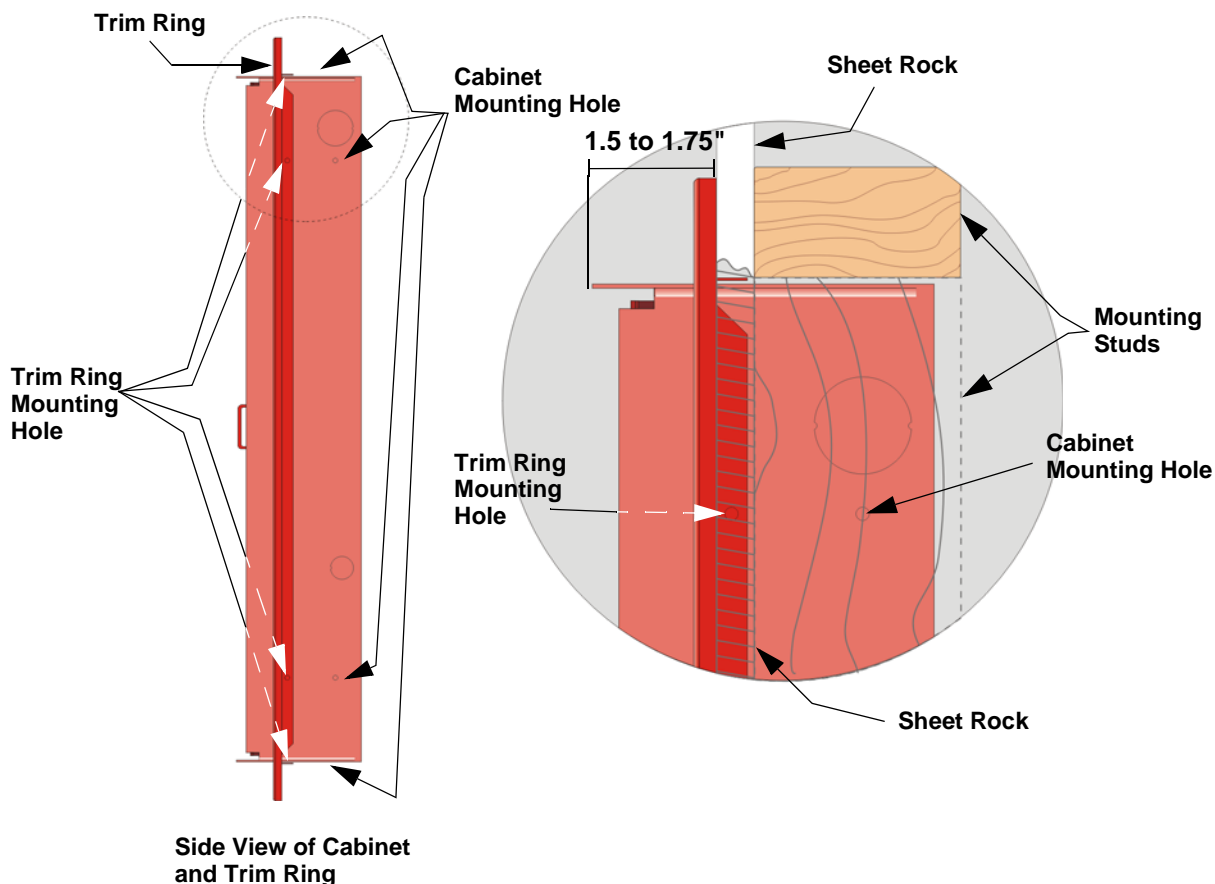

Figure 3-3 Detail of Flush Mounting with Trim Ring
2. Cut a recess hole 20-1/4" W x 26-3/4" H (51.44 cm W x 67.95 cm H). There should be 1.5" to 1.75" of cabinet extruding from the wall, this should be measured from either the top edge or bottom edge to the exterior side of the sheet rock. (See Figure 3-3).